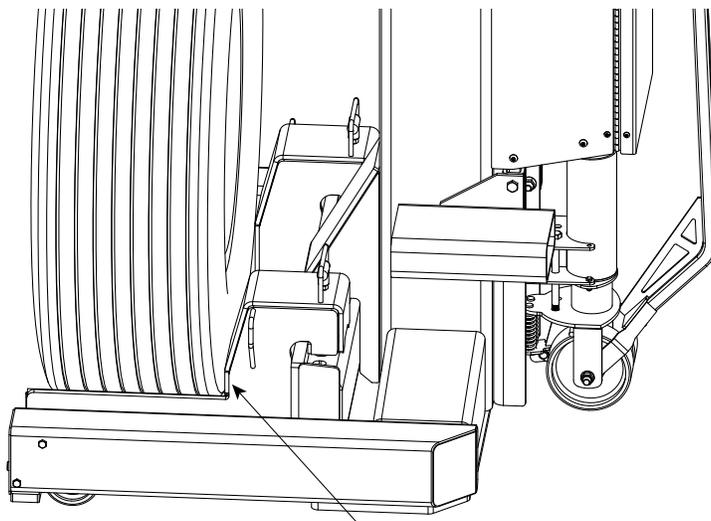

Fig. 13
2. Tire Engagement to Forks, Fig. 11, Fig.12, Fig.13: